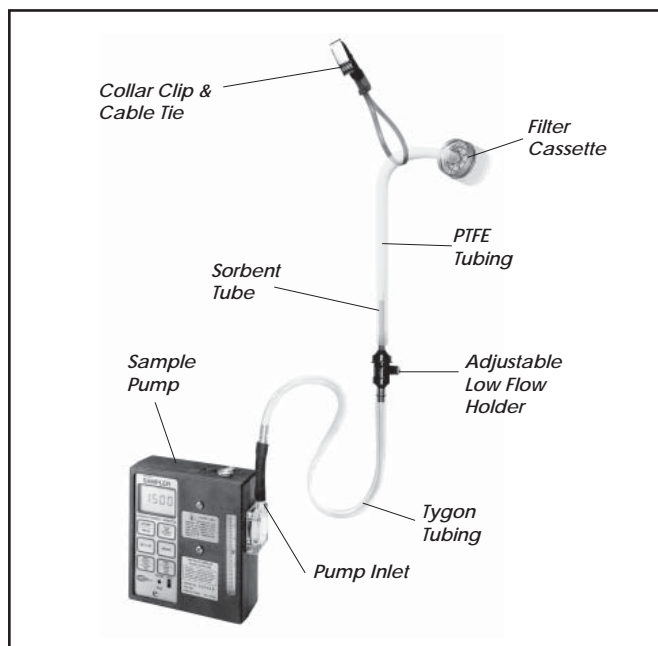

Figure 2. Sampling train using a pre-filter cassette and a sorbent tube
5. Sampling — See Figure 2
When ready to start sampling, prepare a sampling train identical to the one used for calibrating the flow rate, but **without** the external calibrator. Insert a new filter cassette loaded with the appropriate spacer or stainless steel screen and filter and a new sorbent tube. See Figure 2. Attach the cassette to a worker's clothing near the breathing zone and the pump to the worker's belt. **The inlet of the cassette should be facing down.** Remove the plug from the cassette inlet (if applicable). Turn on the pump and note the start time and any other sampling information.